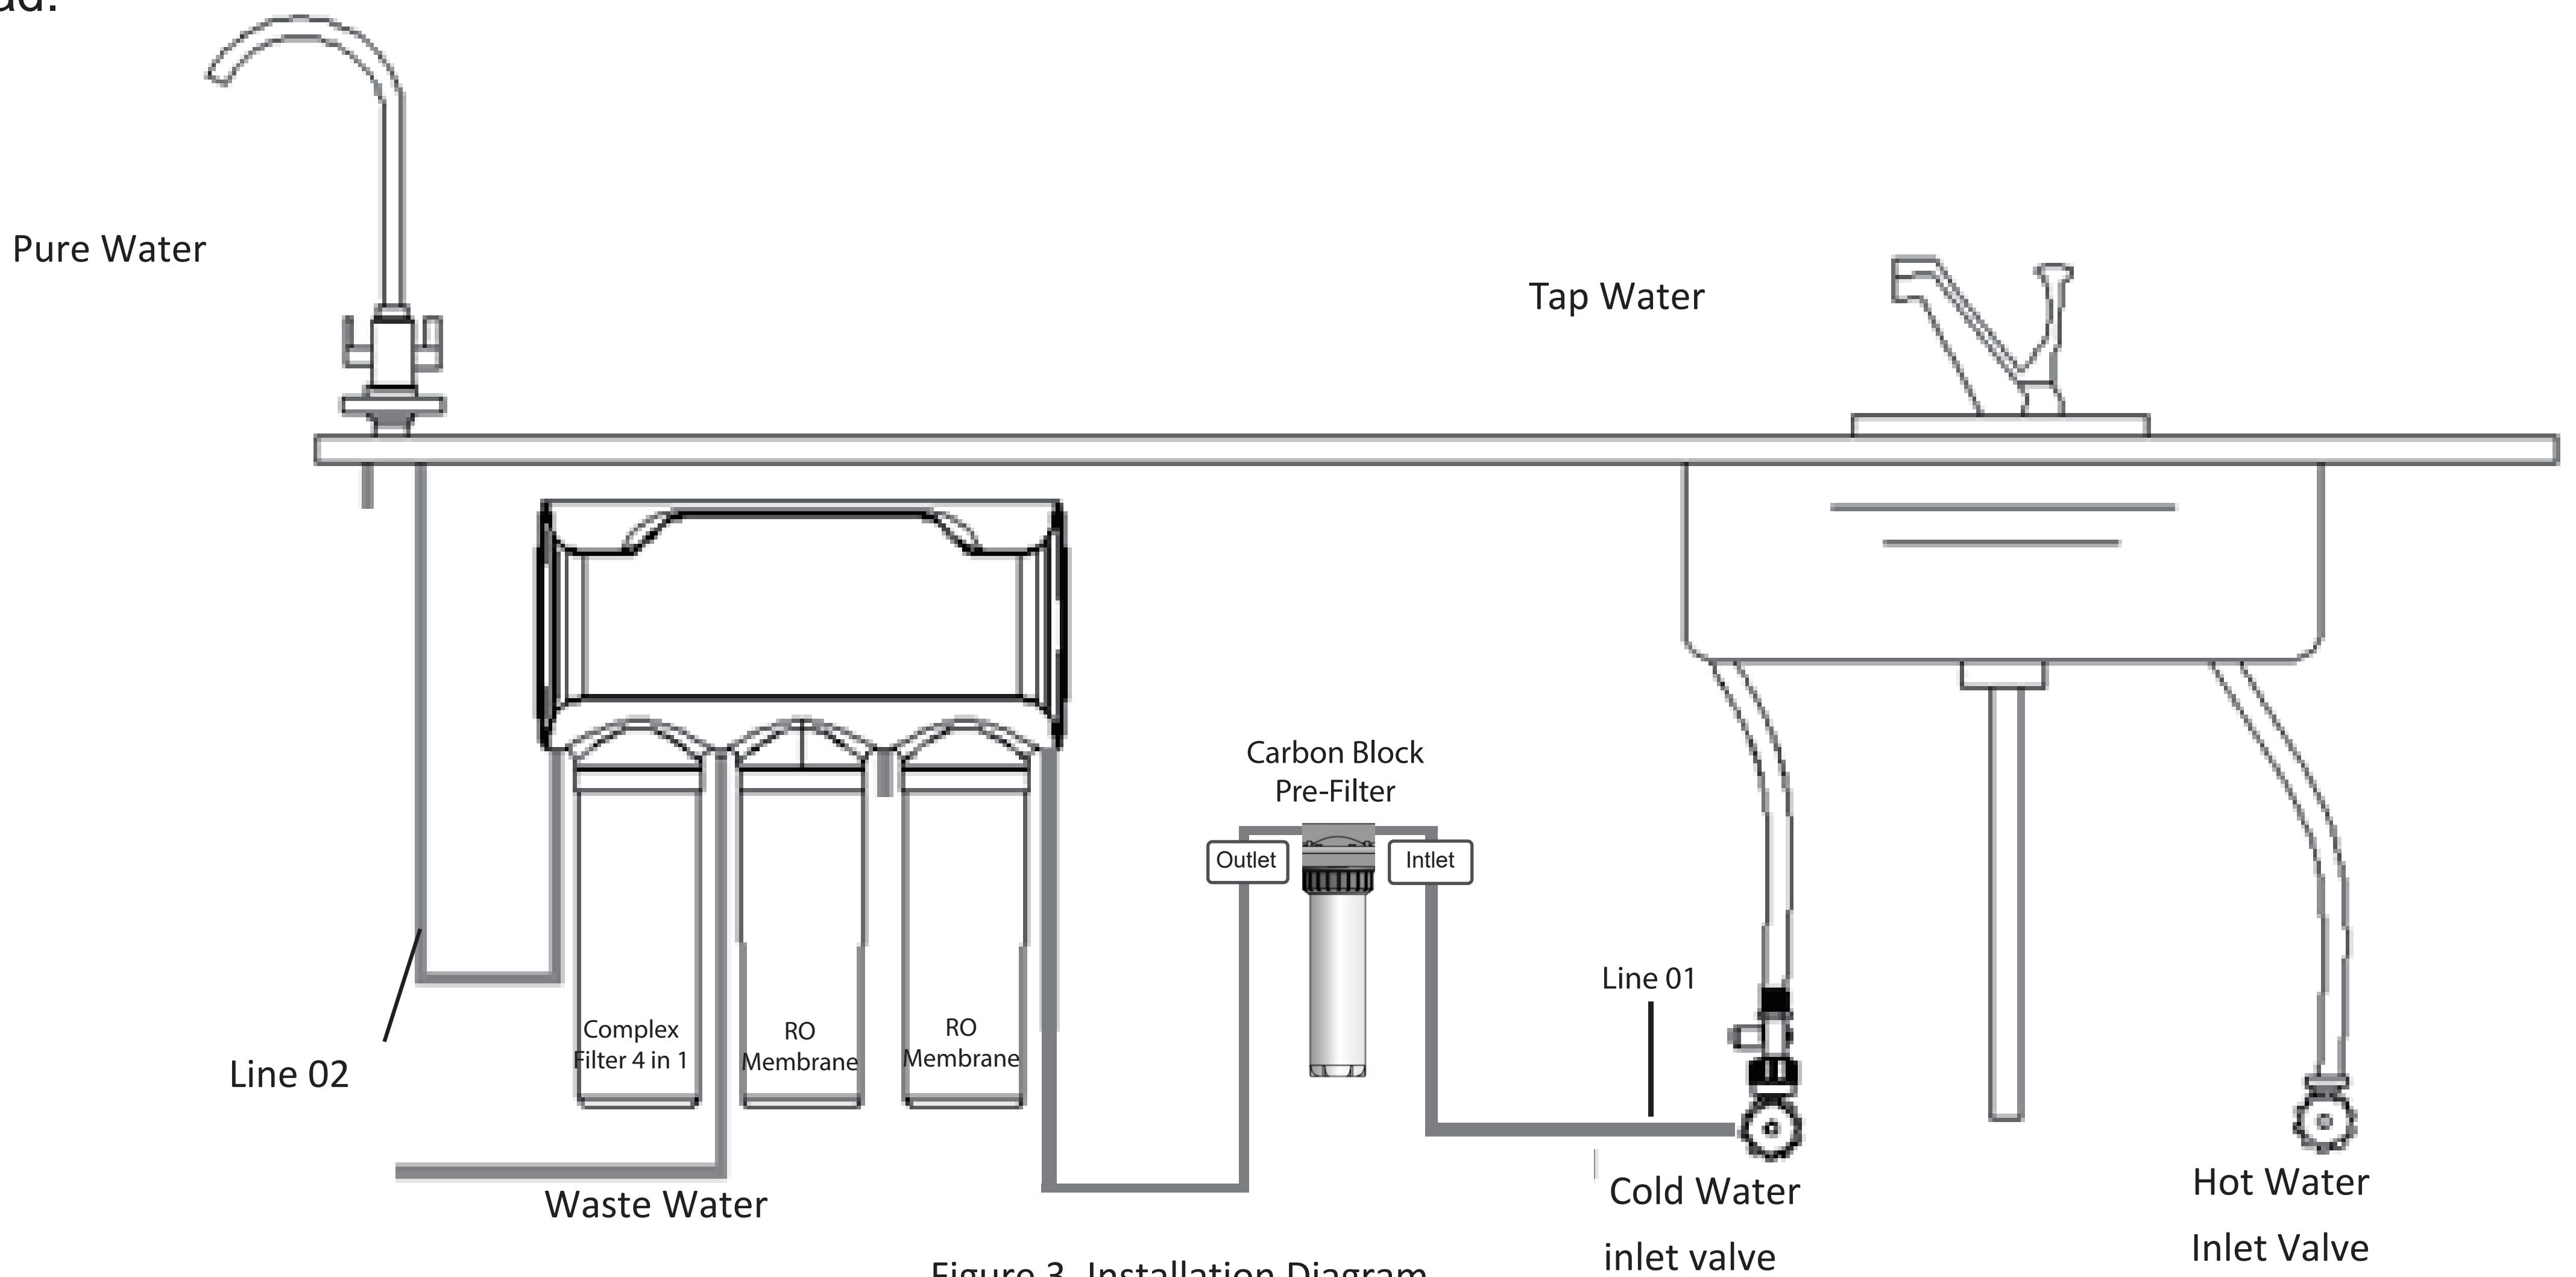

Figure 3. Installation Diagram
2. It is recommended that the RO unit be installed close to your incoming water, drain and electrical socket (Figure 3)